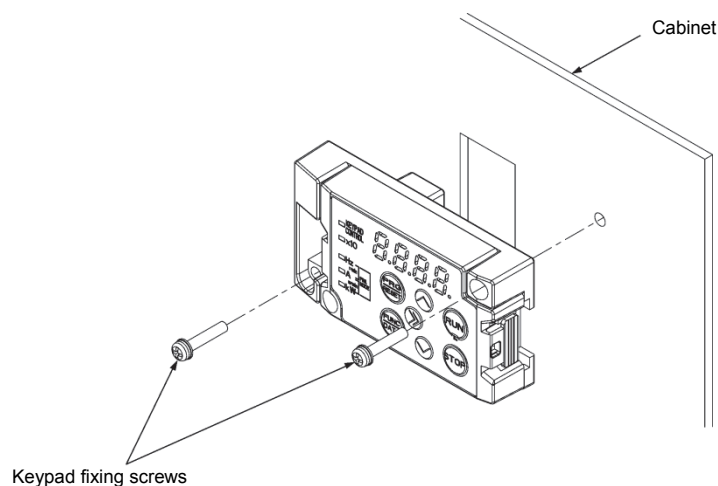

Figure 2.3-7 Attachment of the Keypad
- (4) Fix the keypad to the cabinet using 2 keypad rear cover fixing screws. (Refer to Figure 2.3-7) (Tightening torque: 0.7 N•m(6.2lb-in))